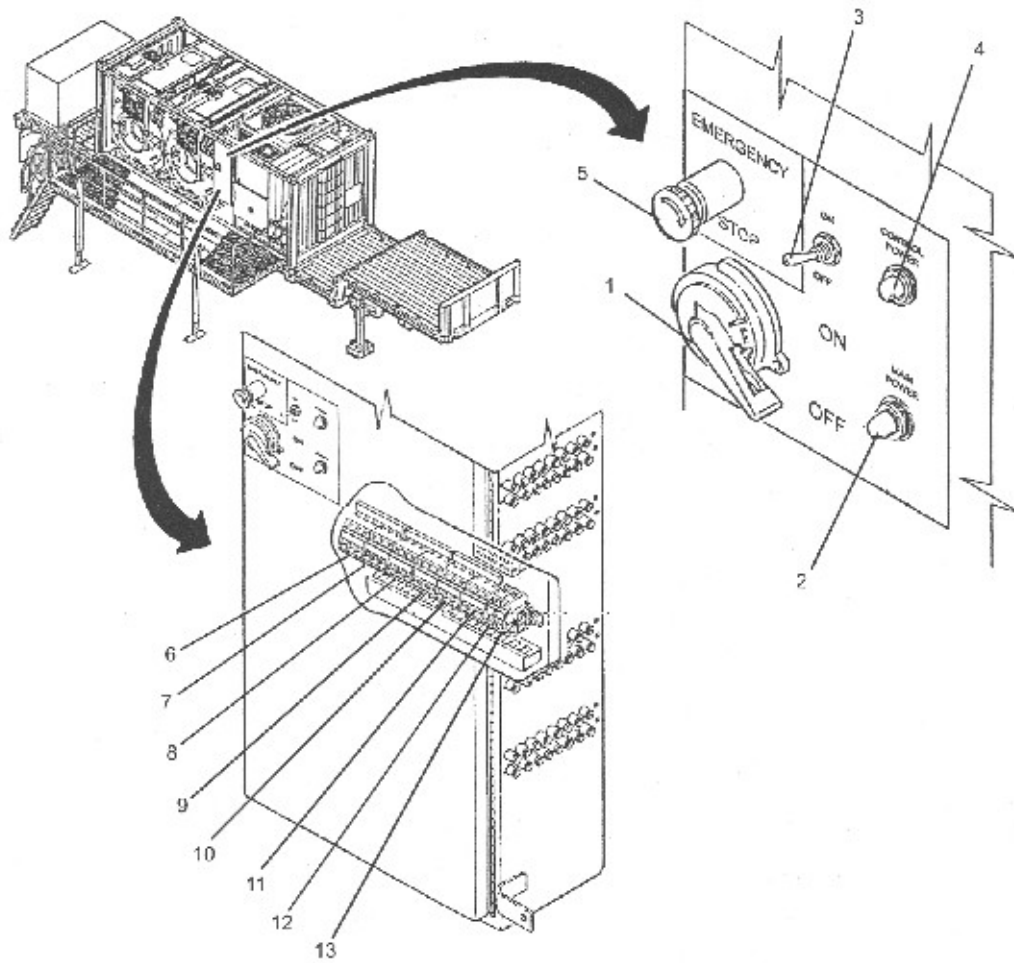

Figure 3-32
- a. MAIN CONTROL ENCLOSURE CONTROLS AND INDICATORS. The below diagram shows the location of the controls and indicators found on the main control enclosure. The below Table describes the use of these controls and indicators. To access the controls located inside the main control enclosure, loosen the eleven latches with a flat tip screwdriver and open door. (See Figure 3-32)